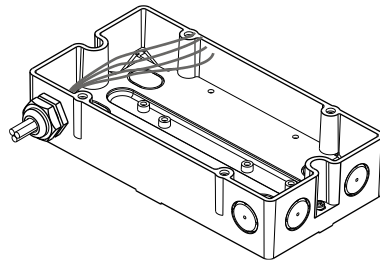

Fig. 5
4. Guide in the cables through the cable glands and secure them in the housing (Fig. 5).